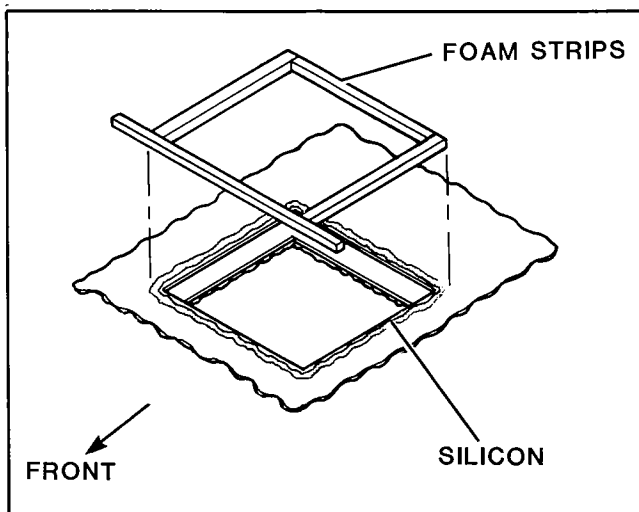

Figure 27. Weatherstrips
3. Install adhesive weatherstrips (provided with cooler) as shown in figure 27.